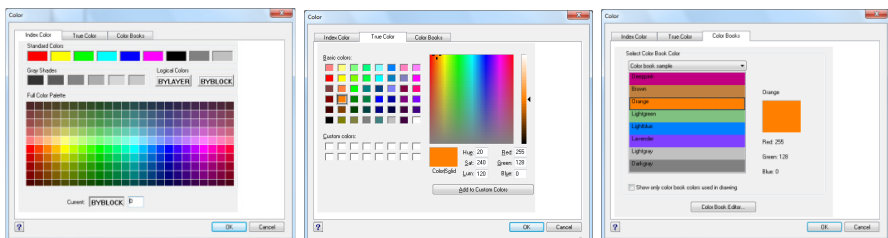

Fig. 121 – Selection of layer colour – tabs: Index Color, True Color, Color Books
-  **Colour change field** – in here the colour of the layer of the selected element can be modified; in a new drawing, entities are created in the colour BYLAYER, which adopts the colour of the current layer. Initially, layer 0 is both the only layer and the current layer. Its default color is white, so your entities appear as white. There are index colors, which contain two additional colour properties that are often referred to as **colours**, **true colours**, and **colour book colours** (Fig. 121). The two additional color properties are **BYLAYER** and **BYBLOCK**. These colour properties cause an entity to adopt the color either of the